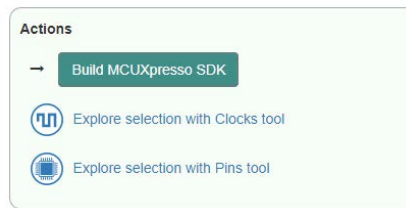

Figure 7. Building MCUXpresso SDK
3. Click **Build MCUXpresso SDK**, as shown in Figure 7.